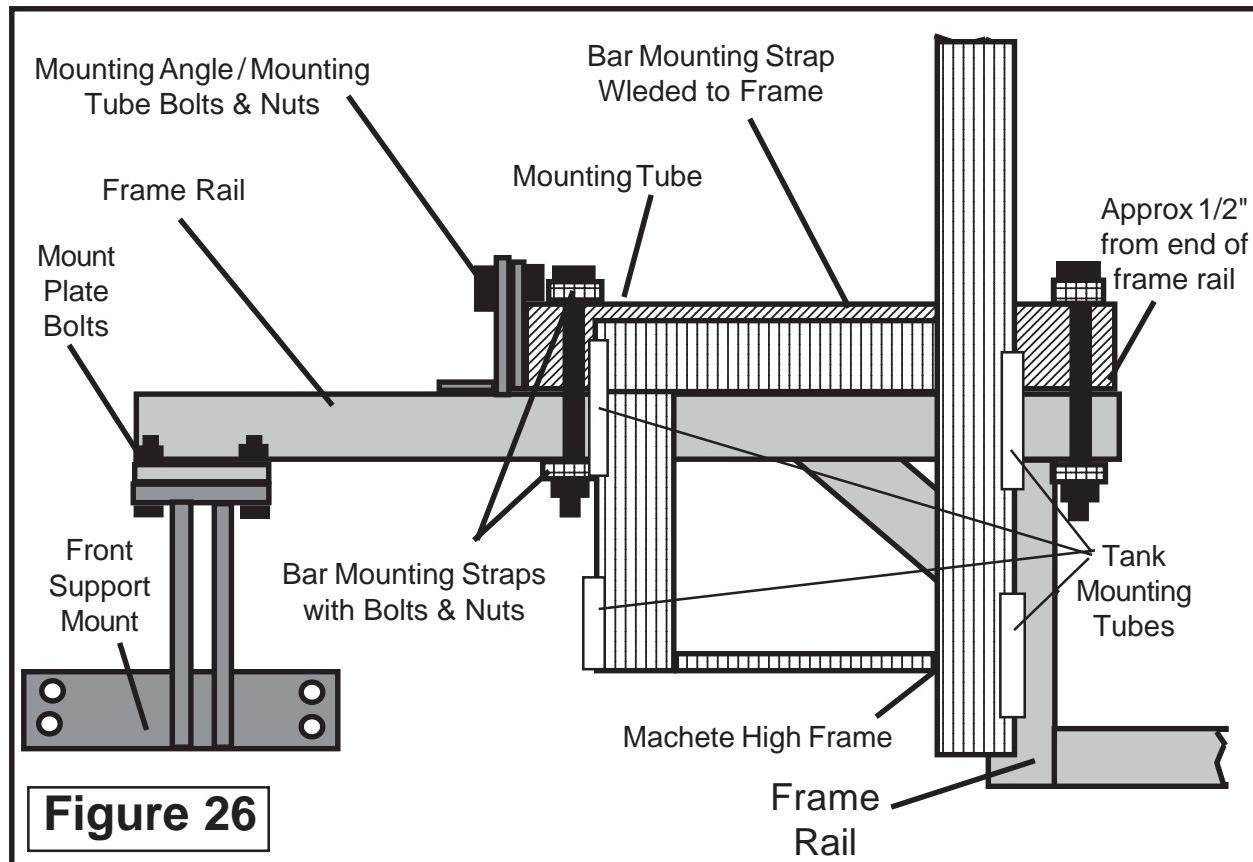

Figure 26
9. Frame Mount should look like. Shown below is basically what the High Frame should look like when assembled (**See Figure 26**).